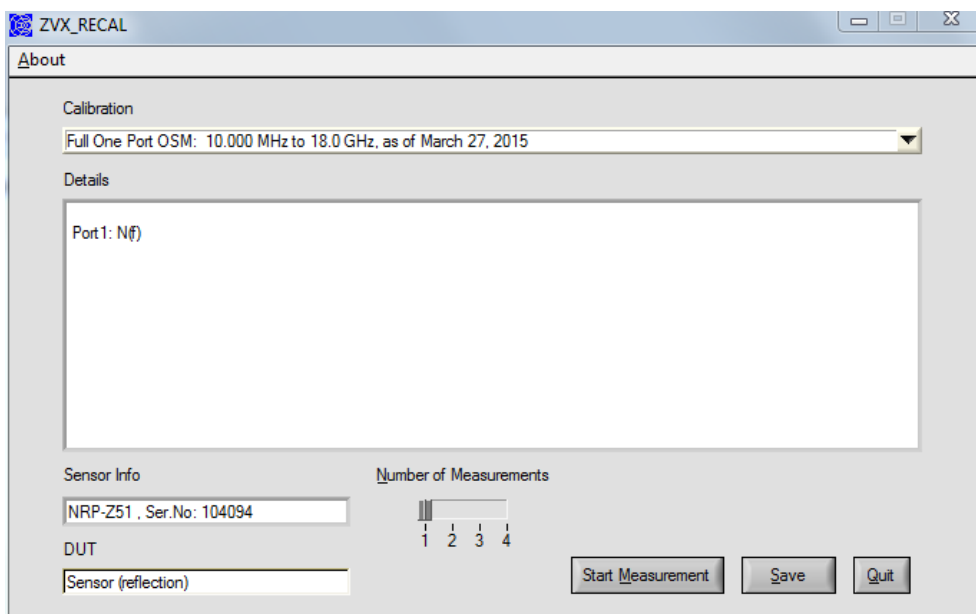

Fig. 6-7 User interface for calibrated network analyzer
- Confirm the **Calibration complete** message with **OK**. The **R&S®ZVX_RECAL** user interface will reappear in the foreground (Fig. 6-7)